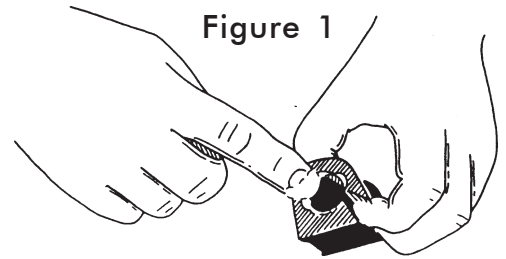

Figure 1
1. Lubricate the solid urethane bushing (Figure 1) and push it over the end of the anti-sway bar and slide it into place. Now, push the new saddle bracket over the solid bushing (2 above). This may require tapping on it with a hammer. Bolt the bushing and bracket into place, leaving the bolts loose. Repeat steps 1 and 2 on the other end of the anti-sway bar.